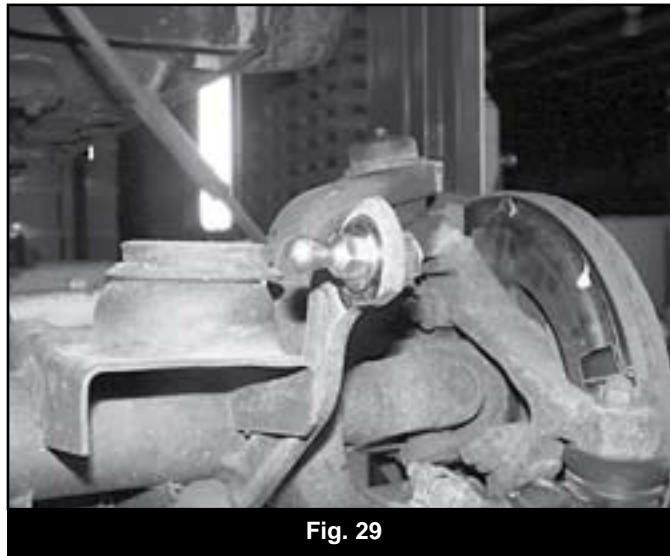

Fig. 27
72. Loosely install the provided shock adapter u-brackets (01308) to the front shocks with 1/2" x 2-1/2" bolts, nuts and 1/2" SAE washers (BP 906). Install the shocks in the vehicle with the OE lower hardware and 3/4" nut, 3/4" flat and lock washers (Fig 27). Torque 3/4" nut to 90 ft-lbs, 1/2" hardware to 55 ft-lbs and OE hardware to 25 ft-lbs.